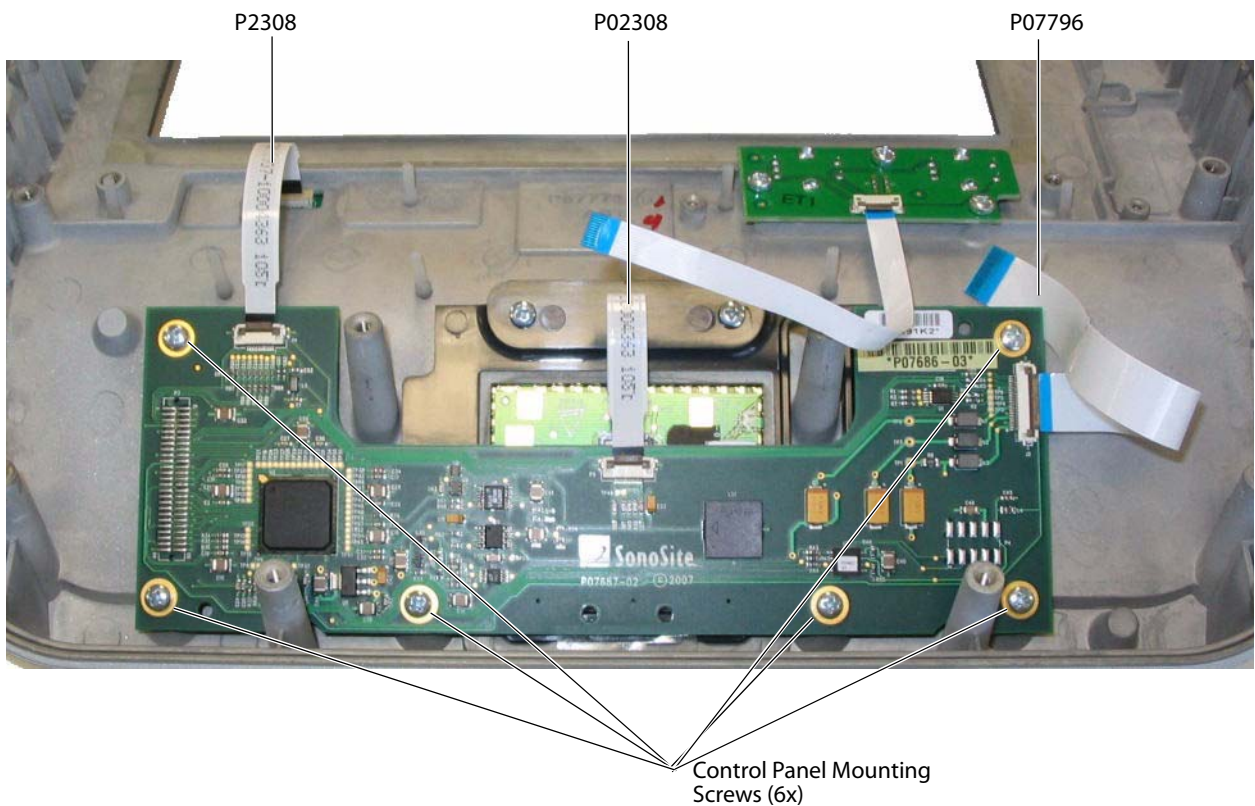

Figure 4.31 Control Panel PCBA
- 2 Remove the six mounting screws as shown in Figure 4.31.